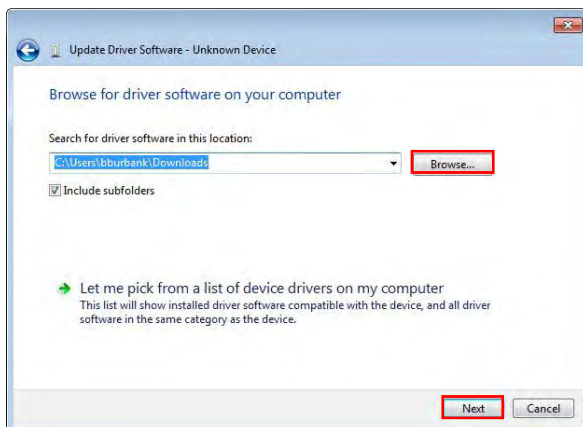

FIG. 188 Update Driver Software - Unknown Device dialog
- In the *Update Driver Software - Unknown Device* dialog, browse for the **APBridge.inf** file and select **Next** (FIG. 188):